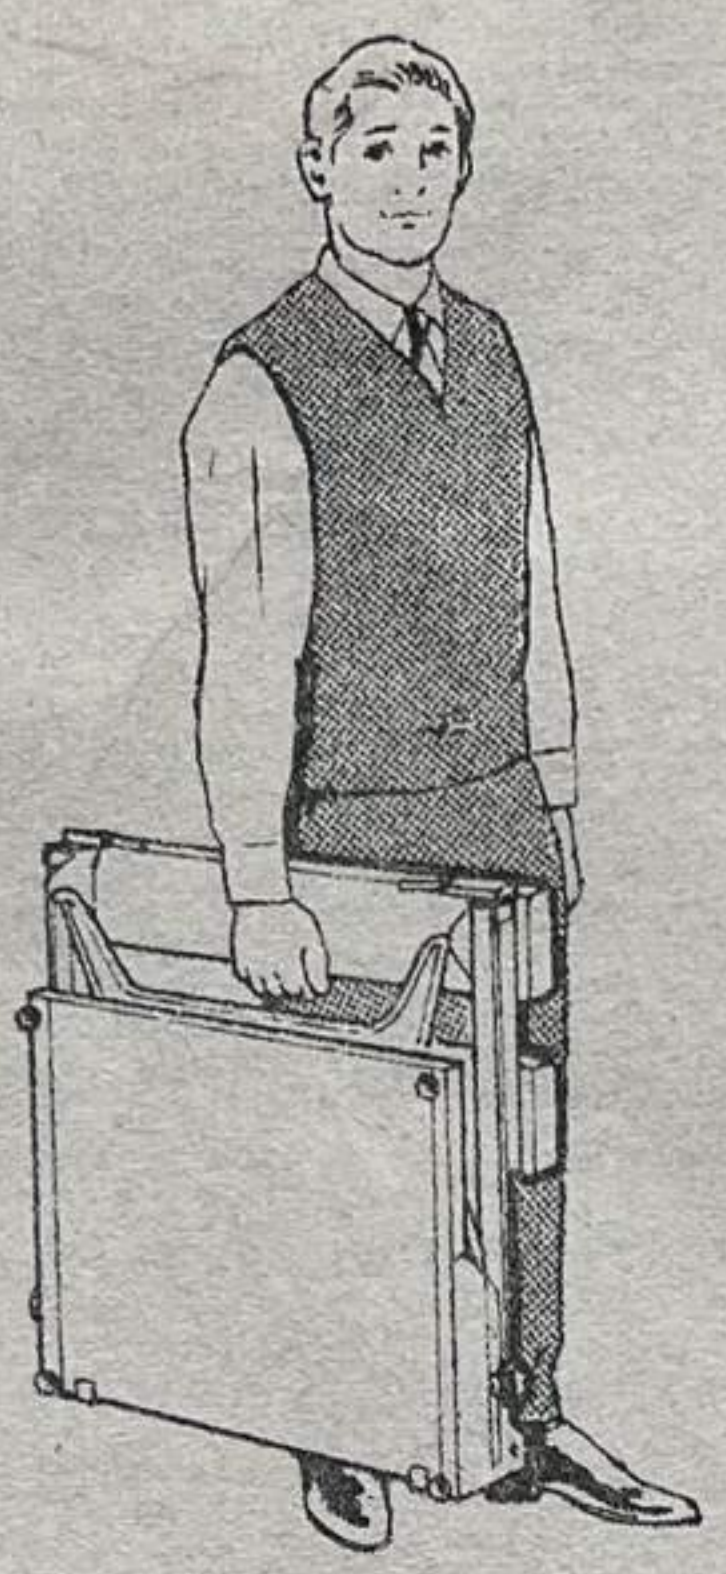

Fig. 2
**METHOD A** (see Fig. 2) With the vice bars towards you, lift under the front bar (balancing as required if an offset woodworking vice is fitted). To do this, you need to have the table-vice OPEN, in order to get your hand into the gap.